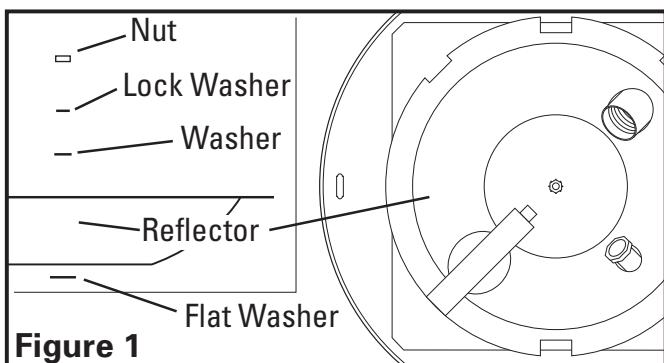

Figure 1
2. Remove the fan's light reflector, which is secured in place with one center located screw. Also remove the lock washer washer and flat washer. Keep all parts in the carton until needed so they do not get damaged or lost (**Figure 1**).